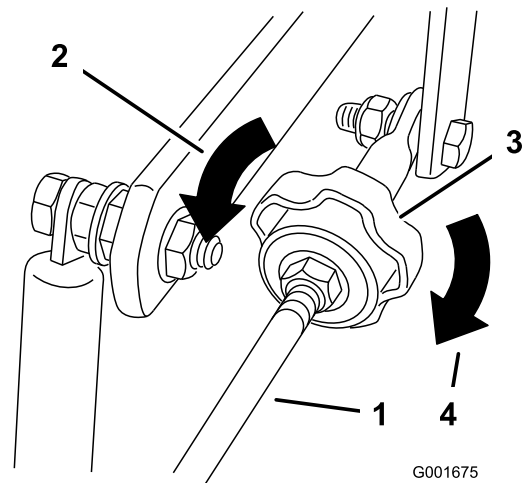

Figure 45
4. To make the machine go right, turn the knob towards the right-side of the machine. Refer to Figure 45.
5. To make the machine go left, turn the knob towards the left-side of the machine. Refer to Figure 45.